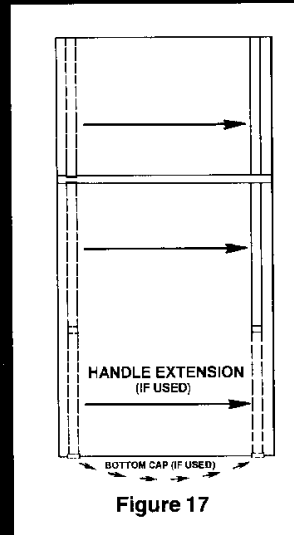
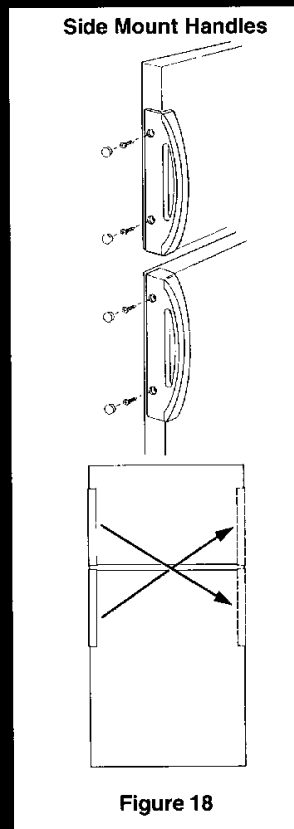

Figure 17
Figure 18
15. Install the handles on the opposite side of door as shown in figure 17. If your model has side mount handles, install the handles as shown in figure 18.